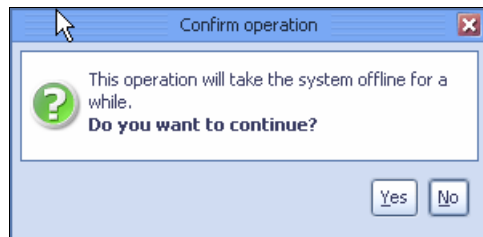

Figure 5-76 Create new library Confirm operation window
12. The Confirm operation window opens (Figure 5-76). Click **Yes**. The ProtecTIER system temporarily goes offline to create the library.